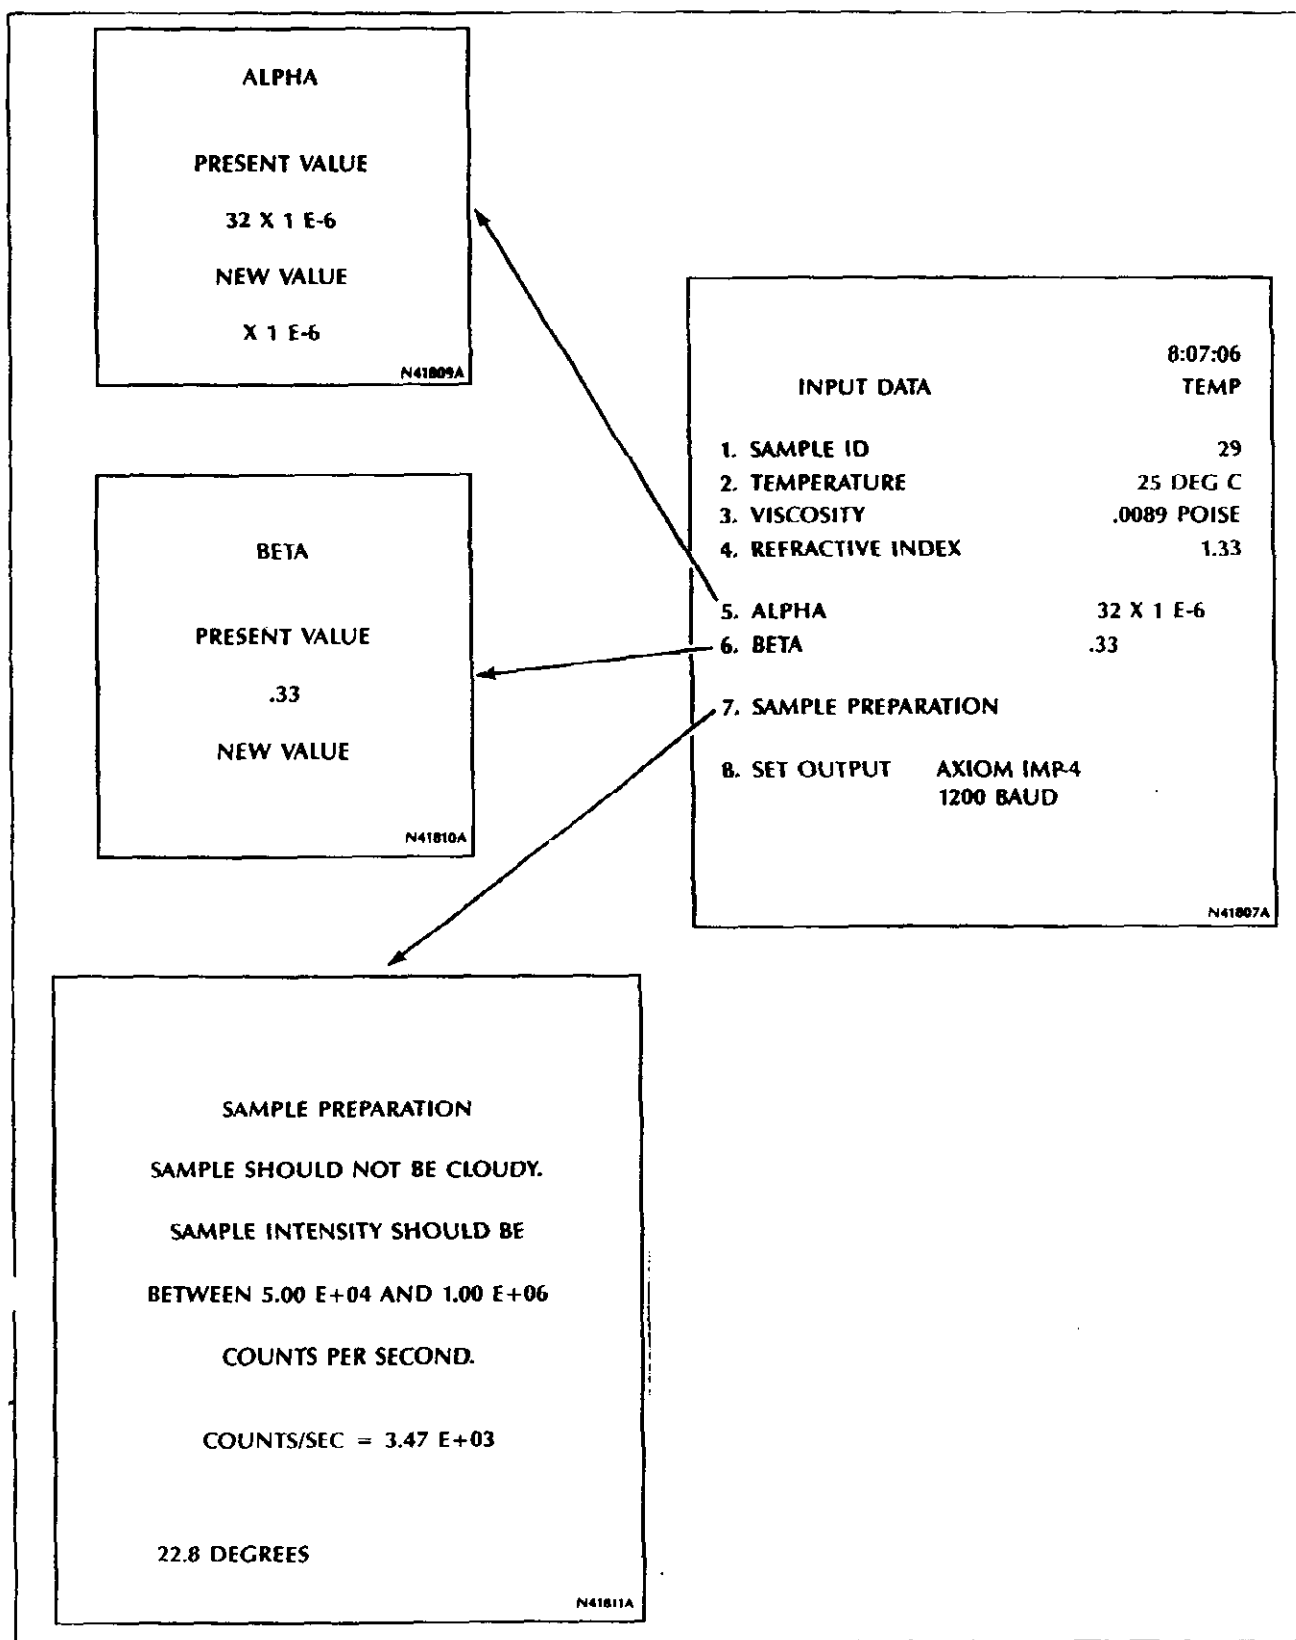

Figure 3.6 Additional Sample Parameter Selections
<p>12. Press <ENTER> to access the ALPHA screen.</p> <p>Enter the sample alpha (α) value by pressing the selected numeric keys and <ENTER>.</p> <p>Example: If the sample and diluent are poly(vinyl pyrrolidone) and water, the α value is 1.0×10^{-4} (Appendix B). Enter by pressing:</p> <p><1>, <0>, <0>, and <ENTER>.</p>	<p>12. The ALPHA screen, Figure 3.6, appears. The alpha value is sample dependent and only used in the calculation of molecular weight.</p> <p>The Model N4MD exponent is a fixed term 10^{-6}, so the value 1.0×10^{-4} must be adjusted to read 100×10^{-6}. The instrument accepts up to five digits for an α value.</p> <p>See Appendix B for alpha (α) values for selected polymers, and heading 3.6, Calculation of Alpha and Beta, to determine an α value. If particle diameter is being selected, no value (or change) is needed for alpha or beta; the Model N4MD disregards any values present.</p> <p>The new α value displays on the ALPHA screen.</p>
<p>14. Press <ENTER> again to access the BETA screen.</p> <p>Enter the sample beta value by pressing the selected numeric keys and a decimal point then press <ENTER> to implement.</p> <p>Example: If the sample and diluent are poly(vinyl pyrrolidone) and water, the β value is 0.50 (Appendix B). Enter by pressing:</p> <p><0>, <.>, <5>, <0>, and <ENTER>.</p>	<p>14. The BETA screen, Figure 3.6, appears. The beta (β) value is sample dependent (like the alpha value). See Appendix B for β values for selected polymers and heading 3.6, Calculation of Alpha and Beta, to determine a β value.</p> <p>The instrument accepts three digits plus the decimal point.</p> <p>The new β value displays on the BETA screen.</p>
16. Press <ENTER> again to access the SAMPLE PREPARATION screen.	<p>16. The SAMPLE PREPARATION screen, Figure 3.6, appears.</p> <p>The sample concentration is measured at the angle of interest and displays this value. If the angle displayed is not the desired angle, press <ANGLE> and reselect an angle. Then access the SAMPLE PREPARATION screen to check the concentration.</p> <p>The sample should not be cloudy. If the concentration is high, the intensity counts may be low (due to the absorption of scattered light by other particles). Read the bottom line of the screen and verify that the sample intensity (counts/s) is between $5.00 \text{ E}+04$ and $1.00 \text{ E}+06$ counts/s. If the sample intensity is not within this range, increase or decrease the concentration as appropriate and repeat.</p>